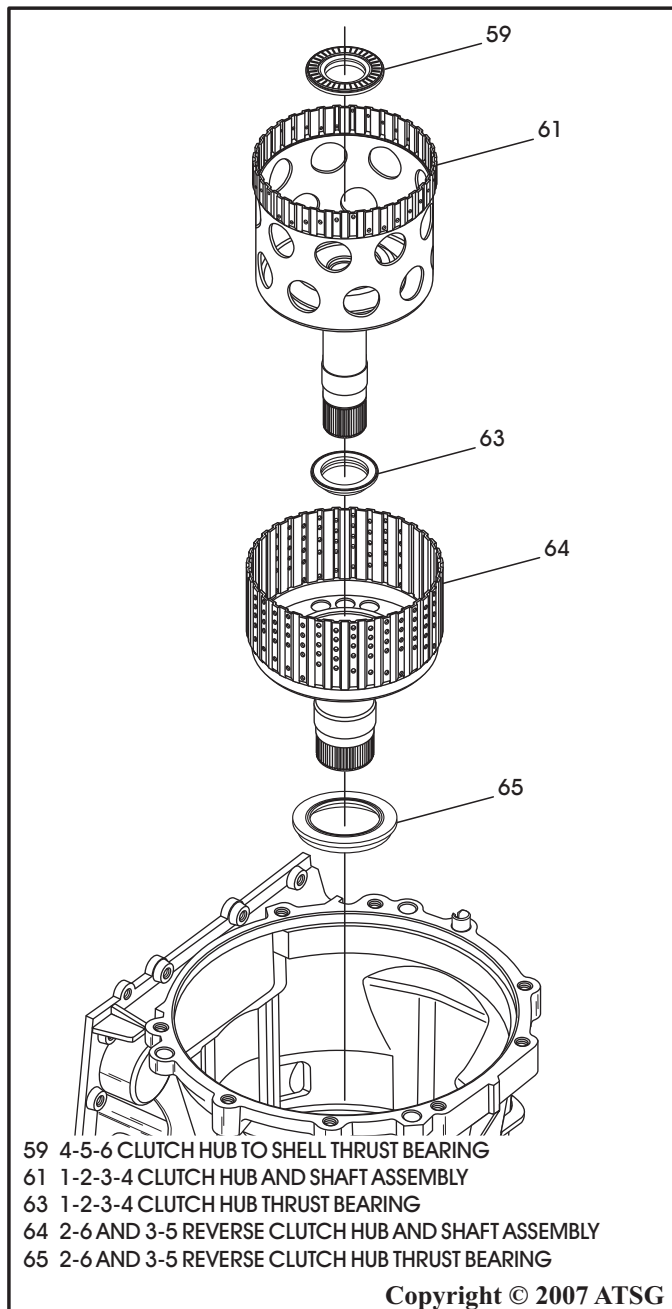

Figure 48
11. Remove both clutch hub and shaft assemblies, all 3 bearings, as shown in Figure 48, and set aside for the component rebuild section.